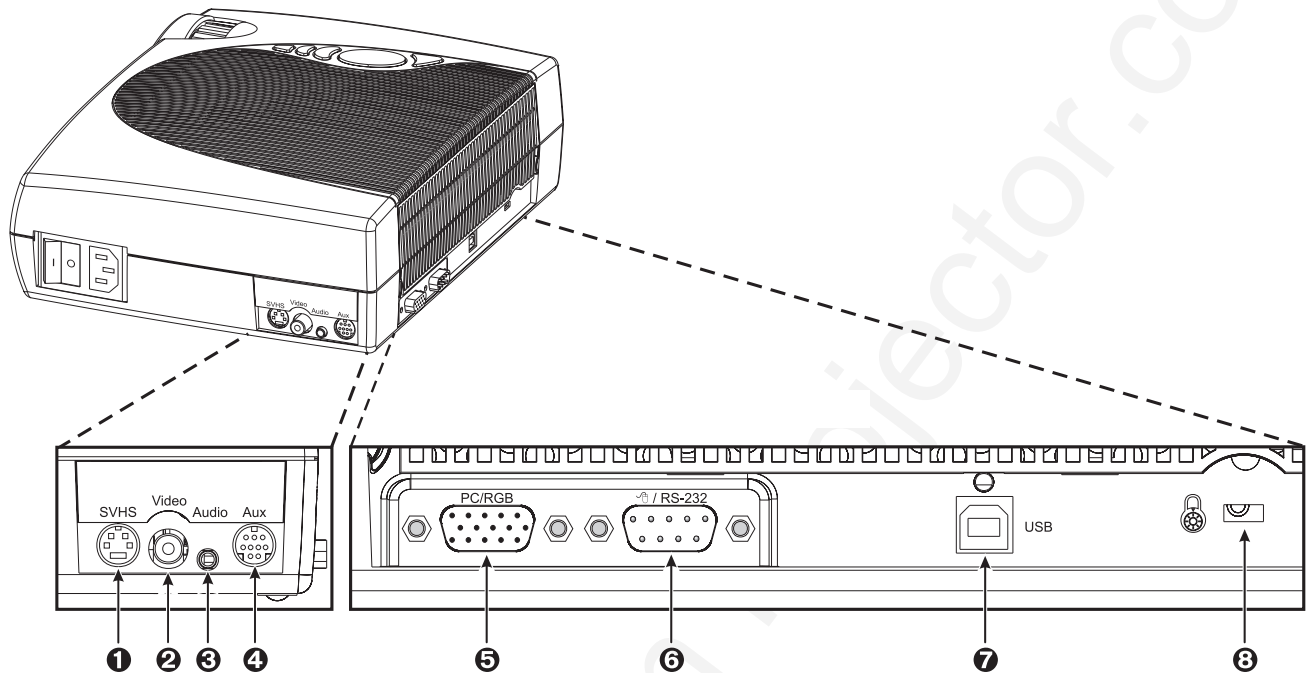

Figure 3-1. Input Connection Terminals
2. Connect cables, being careful not to bend any pins in the cable plug or input terminal (Figure 3-1).